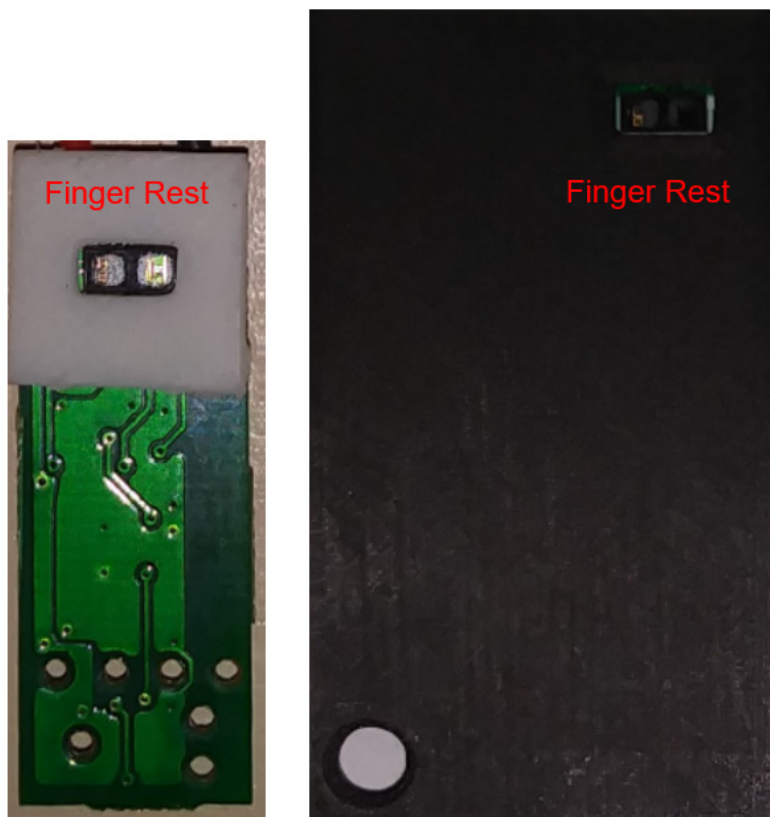

Figure 7. Finger Rest Examples
| Figure 7. Finger Rest Examples..... | 6 |
6. A Finger Rest around the sensor (examples are shown in Figure 7) distributes the force between sensor and finger, improving the blood flow and accuracy of measurement.